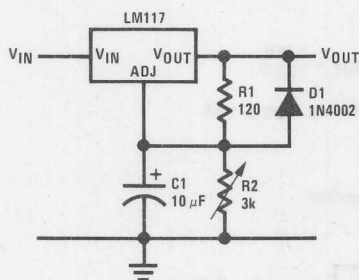
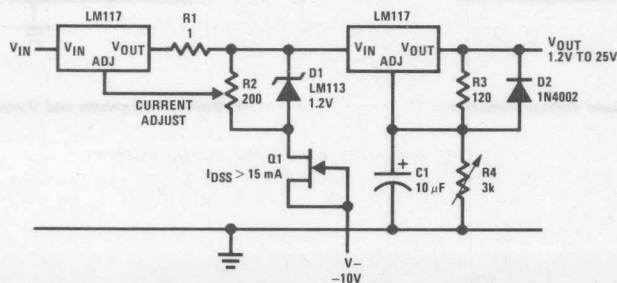

FIGURE 2. Basic Voltage Regulator
FIGURE 6. Adjustable Regulator. Constant Voltage/Constant Current, 10 mA to 1.2A
A 1.2V reference voltage appears inserted between the non-inverting input of the op amp and the adjustment terminal. About 50  $\mu$ A is needed to bias the reference and this current comes out of the adjustment terminal. In operation, the output of the regulator is the voltage of the adjustment terminal plus 1.2V. If the adjustment terminal is grounded, the device acts as a 1.2V regulator. For higher output voltages, a divider R1 and R2 is connected from the output to ground as is shown in Figure 2. The 1.2V reference across resistor R1 forces 10 mA of current to flow. This 10 mA then flows through R2, increasing the voltage at the adjustment terminal and therefore the output voltage. The output voltage is given by:
An adjustable lab regulator using the LM117 is shown in Figure 2 and has a 1.2V to 25V output range. A 10 mA program current is set by R1 while the output voltage is set by R2. Capacitor C1 is optional to improve ripple rejection so that 80 dB is obtained at any output voltage. The diode, although not necessary in this circuit since the output is limited to 25V, is needed with outputs over 25V to protect against the capacitors discharging through low current nodes in the LM117 when the input or output is shorted.
*Figure 6* shows an adjustable current regulator in conjunction with the voltage regulator from *Figure 2* to make constant voltage/constant current lab-type supply. Current sensing is done across R1, a 1 $\Omega$  resistor,